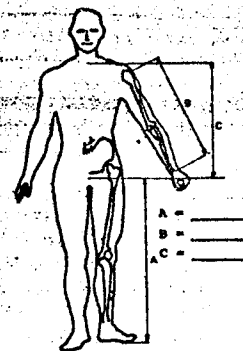

Figure 1
bone. All of these bone points can be located readily by pressing in the general area until the position of the bone becomes obvious. To locate the top of the sternum, feel immediately under the adam's apple, where you will find a bony V-shaped structure. The bottom of this "V" is the top of the sternum. It is most important that you take care with these measurements, and for this reason assistance is a necessity. Take each measurement several times until you're certain that you've taken it correctly. And stand erect as each is taken. Take the leg measurement in bare feet. Finally, convert the measurements to centimeters (multiplying inches by 2.54), since the design data supplied by the Italians are in centimeters. For convenience, enter the final measurements on Figure 1.
• Step 1. First take the A, B, and C physical measurements specified in Figure 1. Measurement A is taken from the floor to the pubis bone; B is measured from the tip of the shoulder blade to the wrist with the arm outstretched; and C is measured from the upper edge of the sternum to the pubis